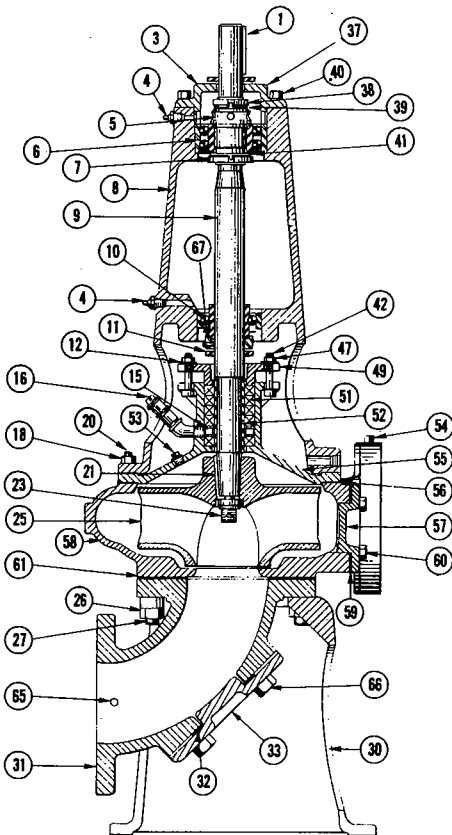

Fig. 5—Cross section of the LM3, LMC4, LL3 and LLC4, Styles VOS and VPM non-clog pumps.
16. Pull shaft (9) out of the bearing housing (8) from the impeller end.
17. On the LLC4 and LMC4 pumps (Figs. 5 & 7) the lower bearing (10) may be removed (be sure to mark its location on the shaft before removal) by releasing the set screw in eccentric collar (67). Turn collar until it releases from the bearing. To remove bearing, lightly tap on inner race of bearing.
PARTS LIST: Figures 5 and 6 with related parts list for open-shaft pumps on page 8 apply to pedestal-mounted pumps. Additional items are listed below.